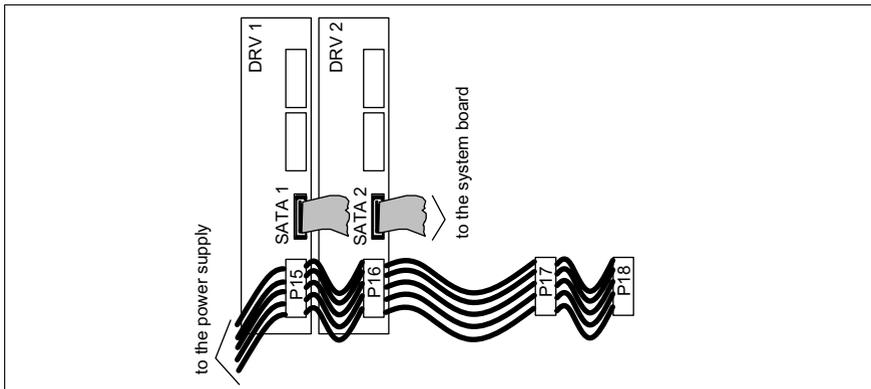

Figure 18: Two SATA drives: connectors
- ▶ Connect the SATA cable T26139-Y3928-V101 to the SATA interface of the second SATA drive (the free cable is already connected to the system board and fixed with cable clips at the housing bottom) (see figure 18).